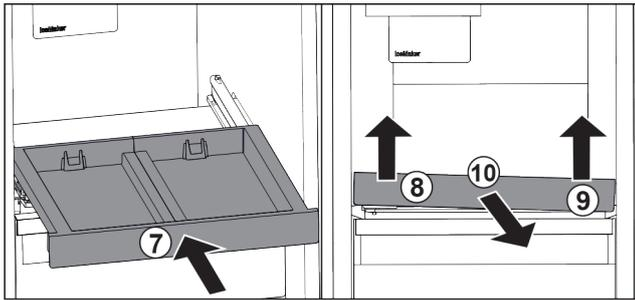

Fig. 86
- ▶ Slide in the pull-out board. Fig. 86 (7)
- ▶ Lift the pull-out board on the front left. Fig. 86 (8)
- ▶ Lift the pull-out board on the front right. Fig. 86 (9)
- ▶ Take out the pull-out board to the front. Fig. 86 (10)